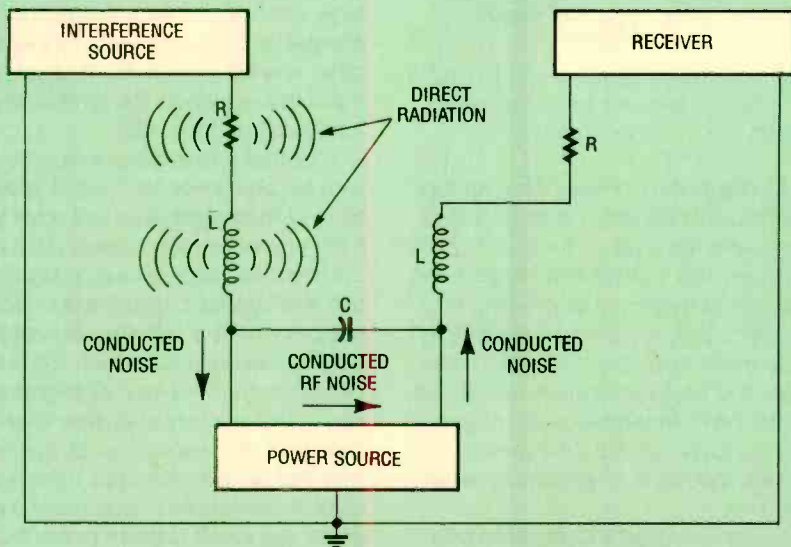

Fig. 1. There are numerous transmission mechanisms for RFI. Shown here are some of its conduction paths and radiation paths.
Fig. 1. Radio frequency (RF) signals can sometimes skip or bounce off the ionosphere (which is located 30 to 260 miles above the Earth's surface), and land thousands of miles away from the transmission site.
Electromagnetic interference can be transmitted by radiation, induction, or conduction. By radiation we mean the electromagnetic propagation of noise through space. Conduction is transmission through an electrical circuit. The most common path for both radiated and conducted interference are the power and control leads of equipment. Figure 1 illustrates both mechanisms. The interference can be radiated directly from the interference source to the receiver by inductive or capacitive coupling, or it may be coupled through the power source or its filtering network.
Circuit Detail. The transmitter is built around the ECG/NTE1014 hybrid RF amplifier/oscillator, a functional block/pinout diagram of which is shown in Fig. 1. As shown, that chip contains two transistors and assorted biasing elements that can be configured in a variety of ways.
Fig. 1. The transmitter circuit is built around an ECG/NTE1014 hybrid RF amplifier/oscillator, which contains two transistors and assorted biasing elements that can be configured in a variety of ways; a functional block/pinout diagram of that unit is shown here.